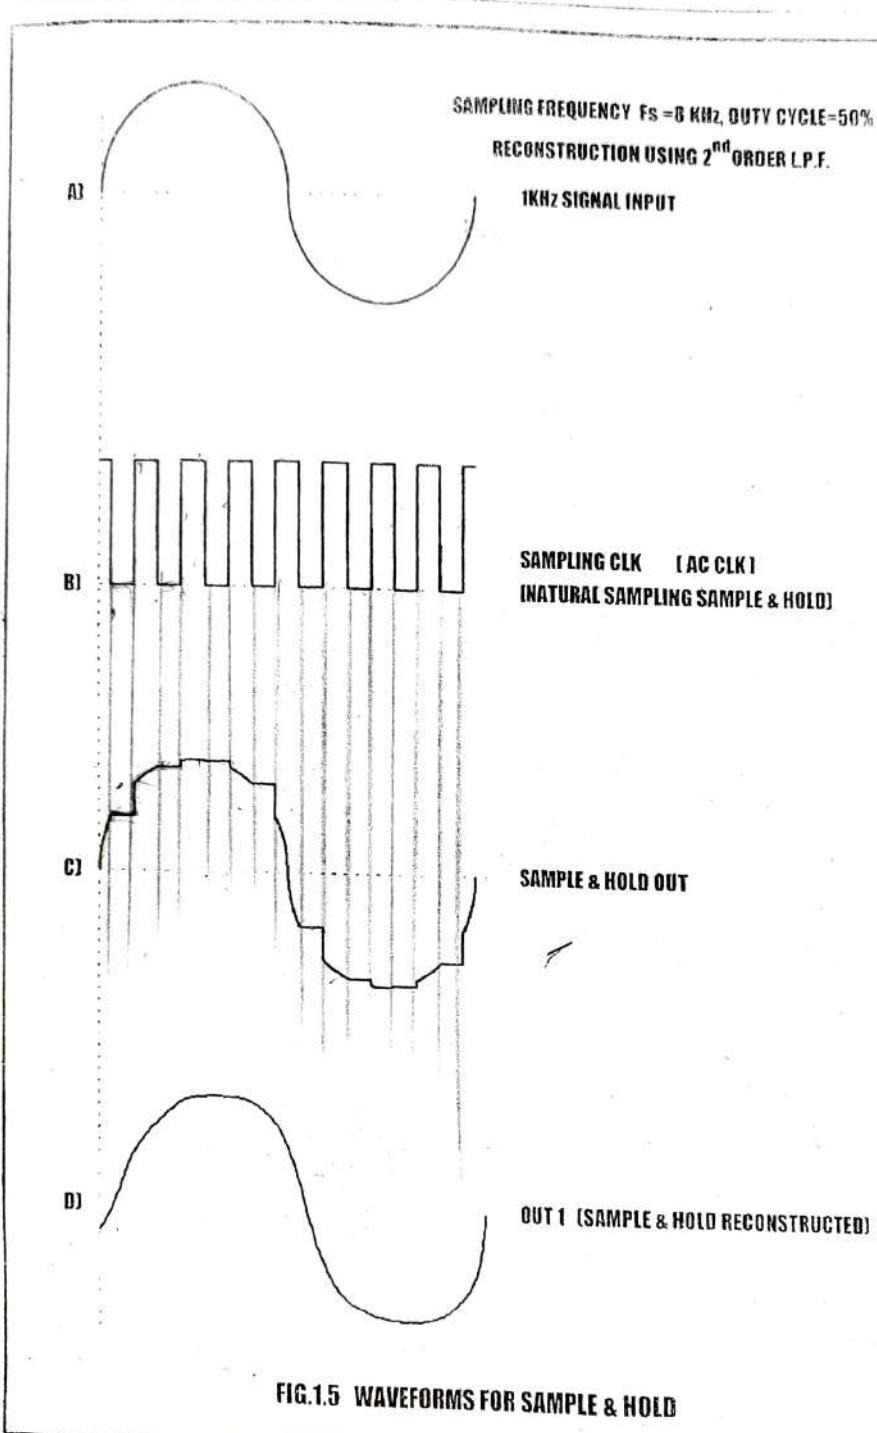

FIG.1.5 WAVEFORMS FOR SAMPLE & HOLD
7. Connect the **OUT** post of the Sample and Hold block to the input **IN 1** post of the 2nd Order Low Pass Butterworth Filter and take necessary observation as mentioned below. (Fig. 1.5).